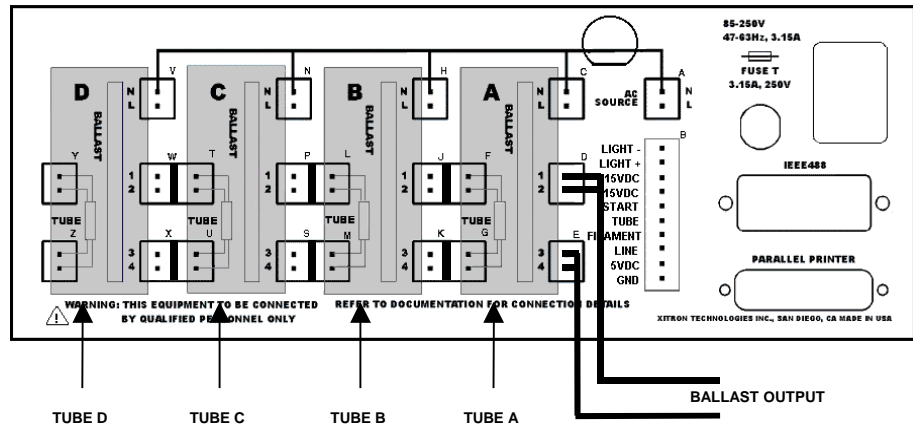

Figure 12. Four-pin Load, Two-pin Ballast Output Connections
- Connect each ballast in sequence as shown in *Figure 12*. Use section A for ballast #1, use section B for ballast #2, etc.